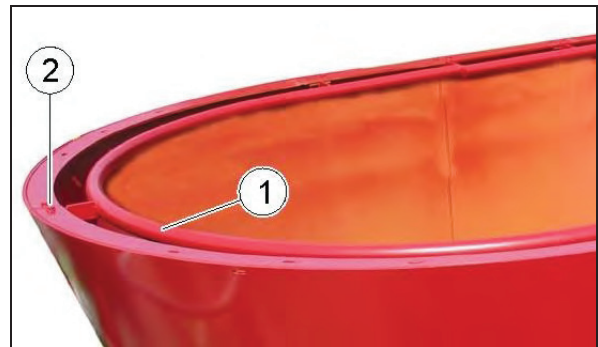

Fig. 68
- an inner overflow ring (Fig. 68) for low overhead clearances, screwed below the top edge of the container.